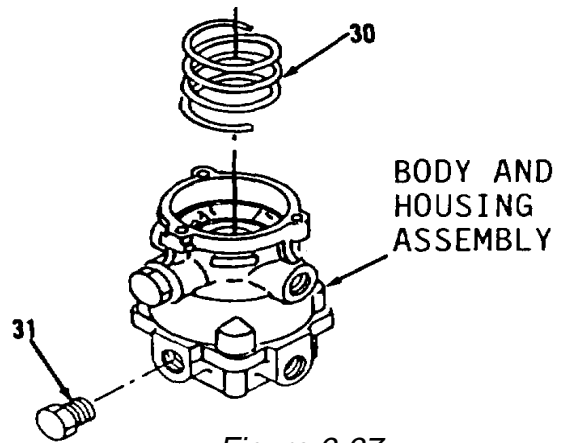

Figure 6-37.
12. Remove spring (30) and plug (31, Figure 6-37) from body and housing assembly.